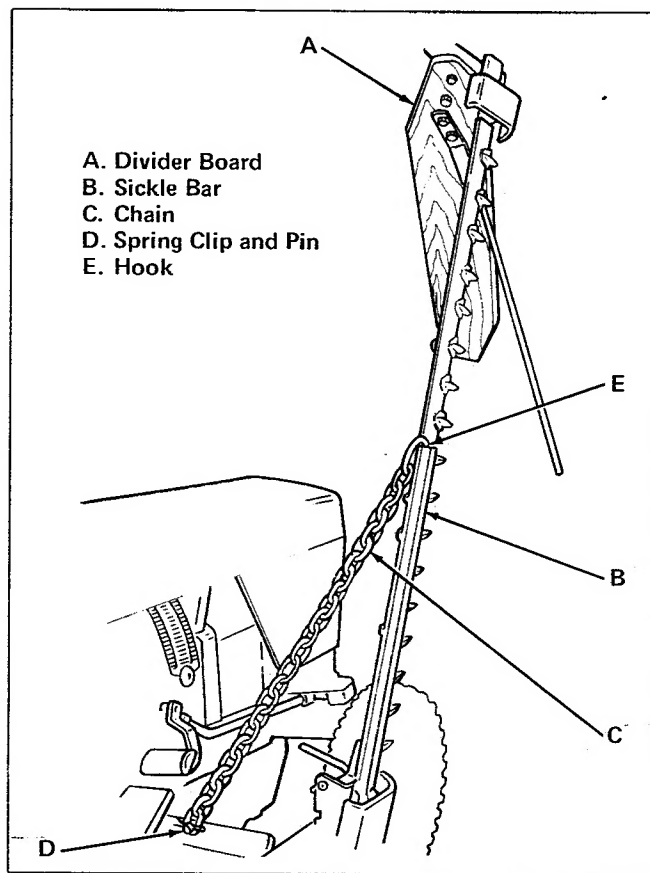

Figure 14. Sickle Bar and Divider Board in Transport Position
1. The sickle bar (item B, figure 14) is stored in the transport position with divider board (item A) positioned forward. To lower sickle bar, shut engine off, remove ignition key and set the parking brake.
4. Carefully raise sickle bar toward tractor to near vertical position and hook chain to end of square tube (item E, figure 14).